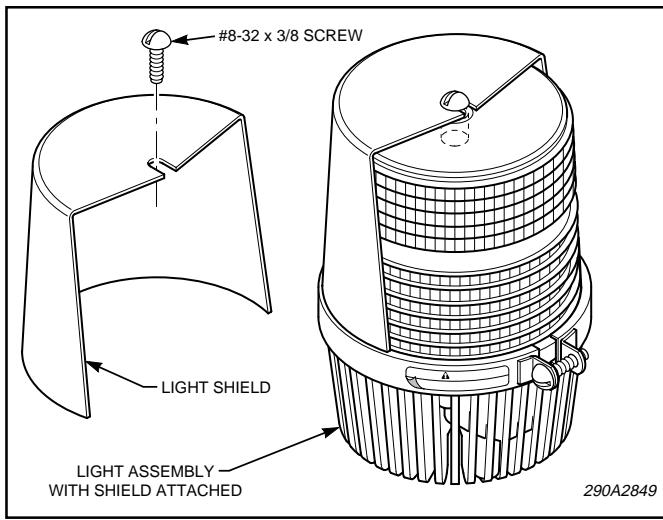

Figure 2.
4. Attach the shield to the light using the 8-32 x 3/8" supplied (see figure 2). The magnet assembly can be removed from the base and attached to the dome, if desired.